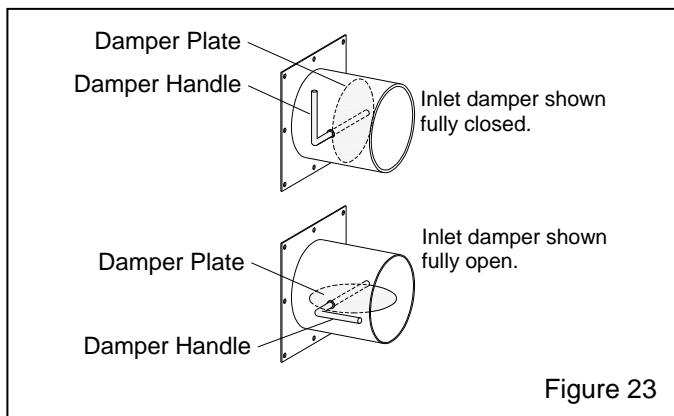

Figure 23
5.2.1 Refer to Figure 23 and adjust the inlet damper by rotating the handle. The damper plate lines up with the handle; when the handle is horizontal, the damper is fully open; when the handle is vertical, the damper is fully closed.